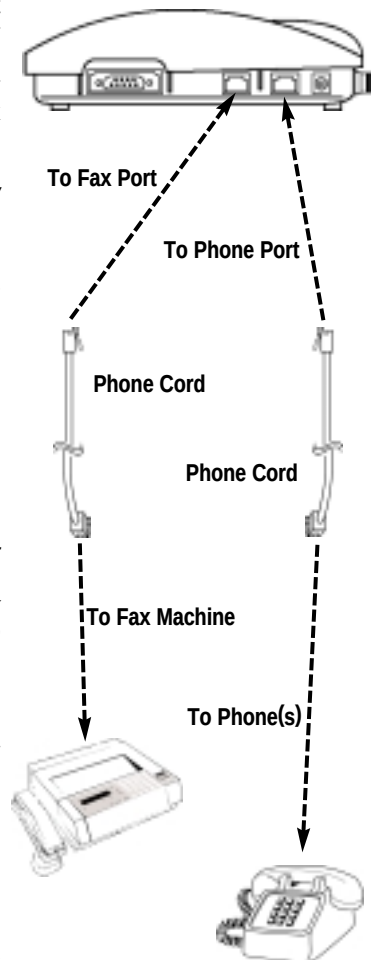

Figure 7: Dual Port
- 2) Connect the other end of the cord to the telephone port (marked **PHONE**) on the side of your Phonecell SX4e - see **Figure 7**.